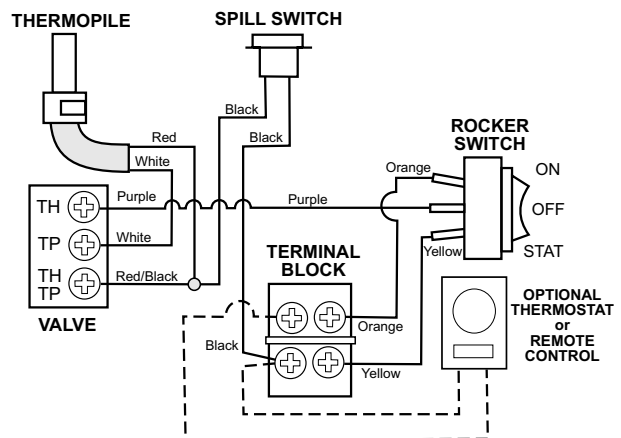

Figure 26. B-vent valve and accessory wiring diagram.
- Connect the two thermostat wire leads to the two left terminals on the terminal block located directly above the ignitor button. Do not overtighten the connections. IT IS NOT NECESSARY TO DISCONNECT ANY OTHER WIRES. See Fig. 26.